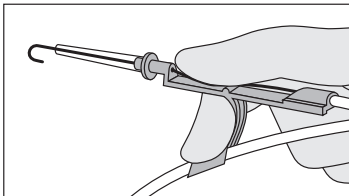

Fig. 5
- Using your thumb, straighten the “J” by retracting the spring-wire guide into the Arrow Advancer™ (refer to Figs. 5, 6).